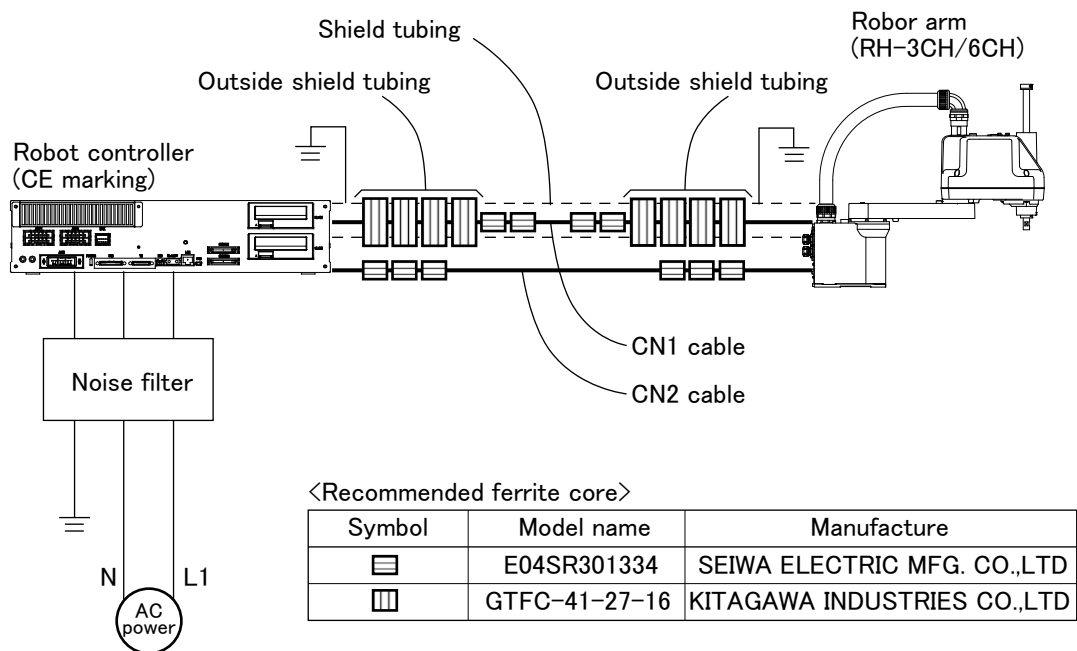

Fig.6-8 : EMC measures for RH-3CH/6CH
- 2) Attach ferrite cores to the CN1 cable and CN2 cable (see Fig. 6-8 for details).